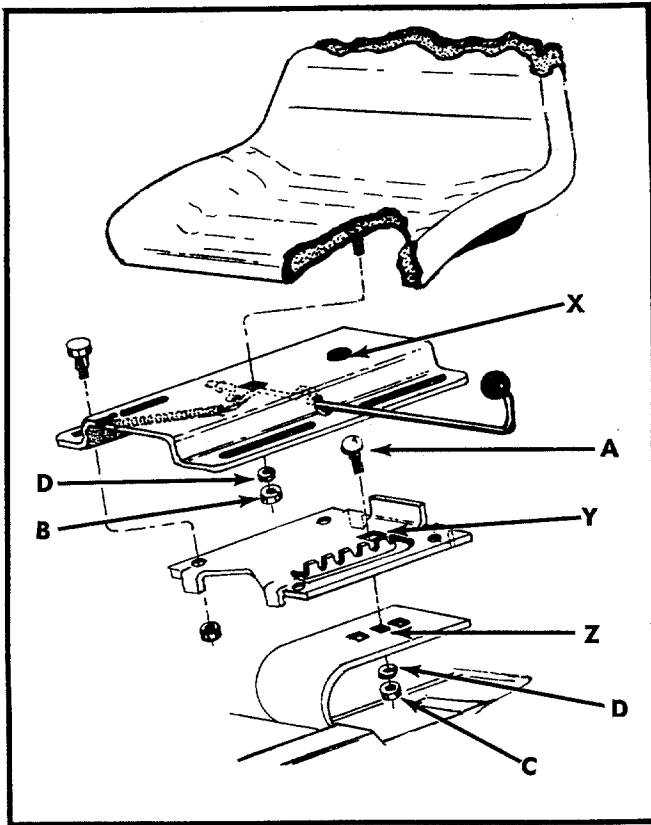

FIGURE 3. SEAT ASSEMBLY
- a. Place carriage bolt (A) through seat guide hole marked (X), and into seat spring guide hole marked (Y). (See figure 3.) Place lockwasher (D) and hex nut (C) on carriage bolt (A) just a couple of turns to hold bolt in place.
- b. Place seat assembly upside down. Place seat adjustment assembly in position and secure with lock washer (D) and hex nut (B). See figure 3.
- c. Place seat and seat adjustment assembly on seat spring hole marked (Z). Secure with Hex Nut (C) and Lockwasher (D). See figure 3.